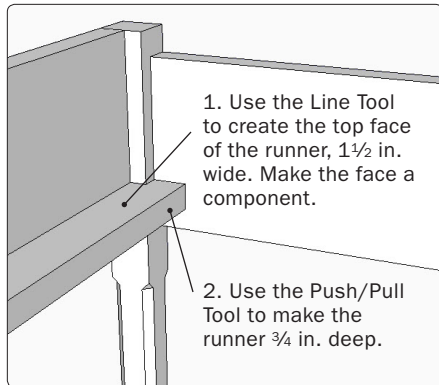

Figure 21. Rough out the drawer runner in place between other components.
Step 21 The drawer runners have tenons that fit into mortises in the front stretcher and the back components. The top of the runner is flush with the top face of the front stretcher. Use the Line Tool to draw the runner's top face (1½ in. wide) within the assembled structure, make the face a component, and then use the Push/Pull Tool to give it the proper thickness, as shown in Figure 21. Copy the runner and use the Flip Along function to create its mate.